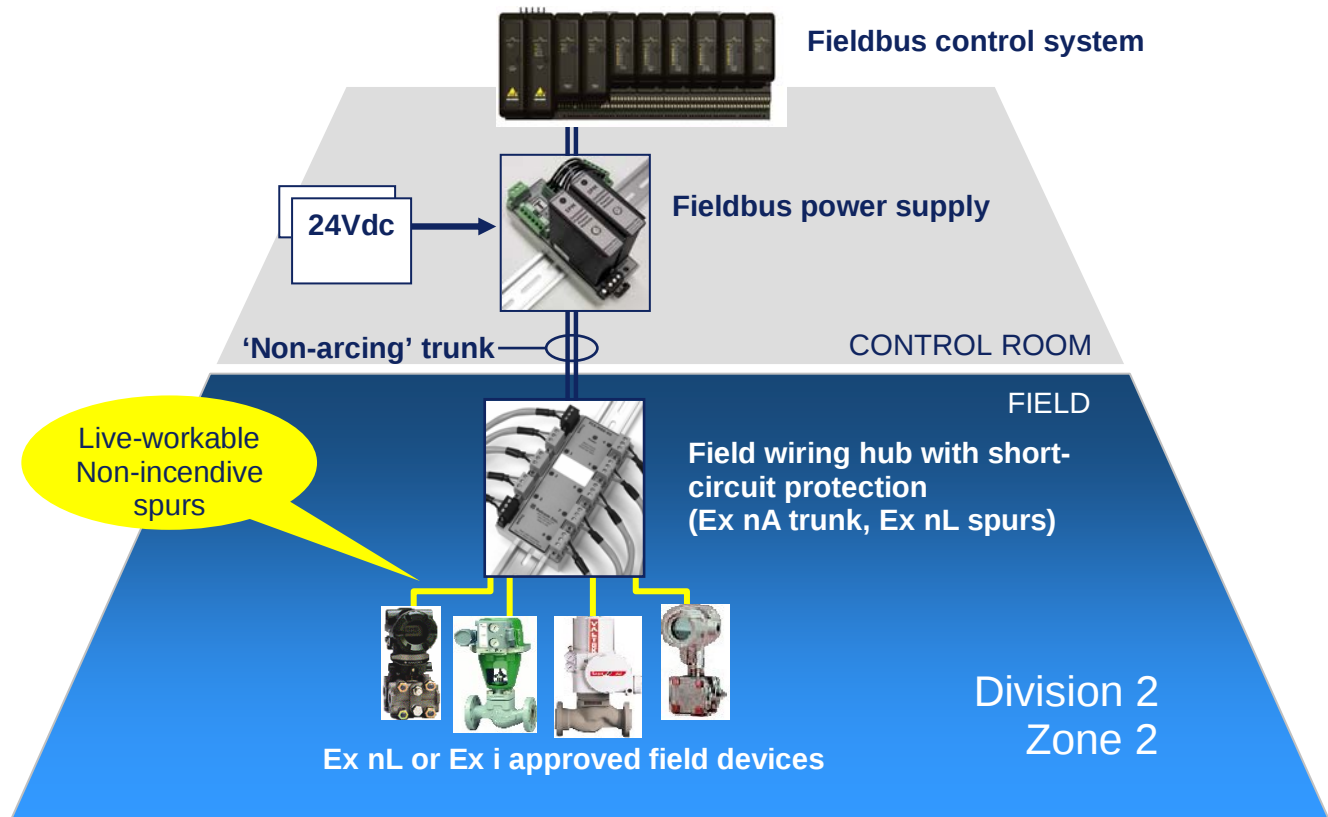

Figure 2
The second topology used to limit energy to fieldbus segments is called the High Powered Trunk method (see Figure 2). Here an Isolated Fieldbus Power Supply (FPS) which may also be redundant is used to feed the Trunk of the segment. The FPS limits the voltage and current, but not to a level that is safe for live working. The Field Wiring block contains current limiters (SG) on each of the spurs and typically limits the current to 60mA. At this point with the voltage being limited by the FPS and the current being limited by the SG, the energy on the Spurs is below a level that would cause an ignition if a short occurred. This makes the Spurs Live Workable. The Trunk, however, is rated non-Arcing and must not be worked without powering down, or getting a gas clearance. Since most work needs to go on at the device and most people would frown on working on a Trunk while energized since a mistake there could take all devices offline, this method is widely used. It provides the benefit of redundant power, long cable lengths (the FPS can supply voltages as high as 28VDC), and a maximum device count (the FPS can supply 350mA-500mA or more).